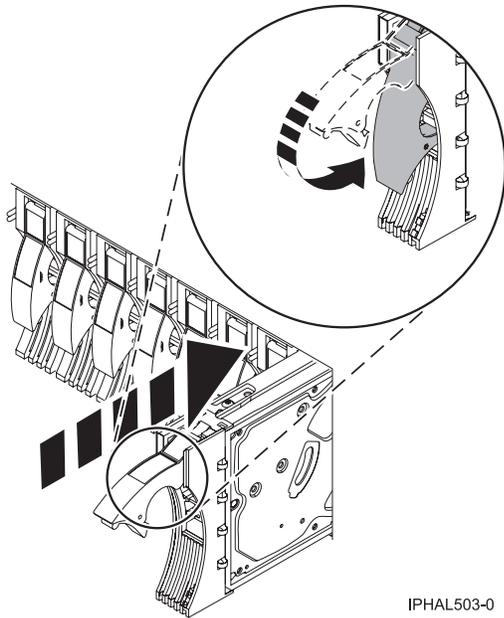

Figure 24. Installing a disk drive in a model
6. Install the disk drive as shown in Figure 24 on page 29.